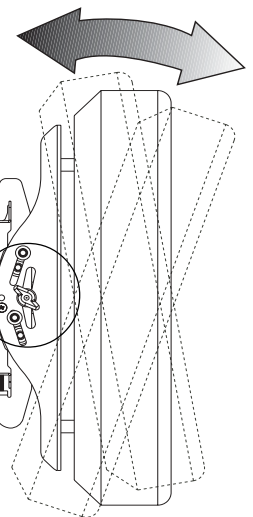

fig 4.1
Push or pull from top or bottom of screen to adjust tilt as shown in figure 4.1. The tilt can be adjusted to a maximum of 15° forward or 5° backward.
**Note:** To lock the screen into the desired tilt position, use locator hole to find tilt position. Tighten IncreLok™ tilt locking screws on both tilt brackets as shown in figure 4.1 and detail 2.